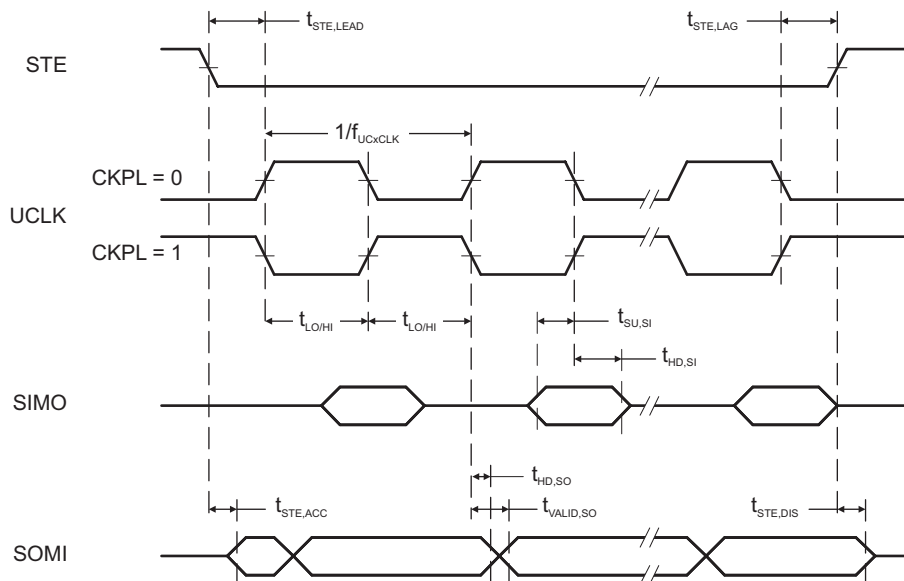
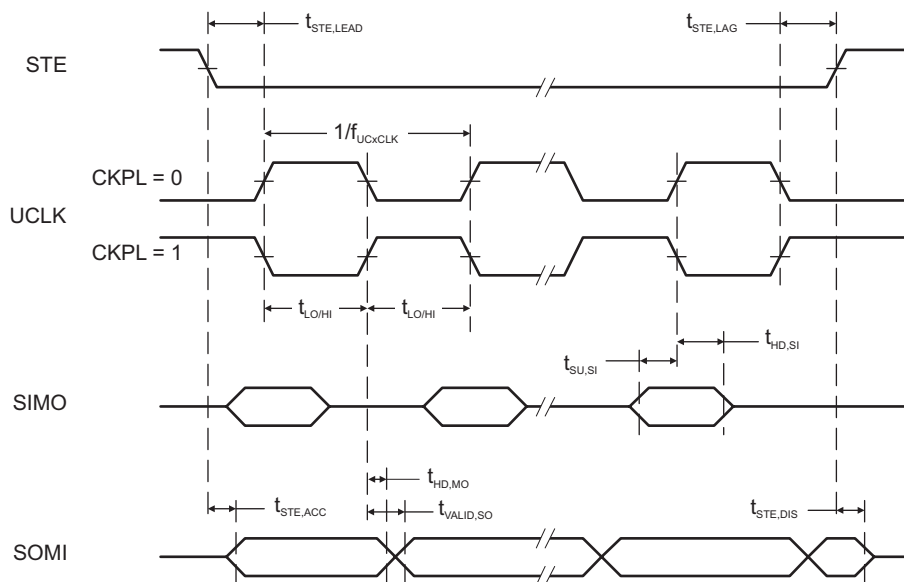

Figure 5-16. SPI Slave Mode, CKPH = 0
Figure 5-17. SPI Slave Mode, CKPH = 1
over recommended ranges of supply voltage and operating free-air temperature (unless otherwise noted)⁽¹⁾ (see Figure 5-16 and Figure 5-17)
- Specifies the time to drive the next valid data to the SOMI output after the output changing UCLK clock edge. See the timing diagrams in Figure 5-16 and Figure 5-17.
- Specifies how long data on the SOMI output is valid after the output changing UCLK clock edge. See the timing diagrams in Figure 5-16 and Figure 5-17.